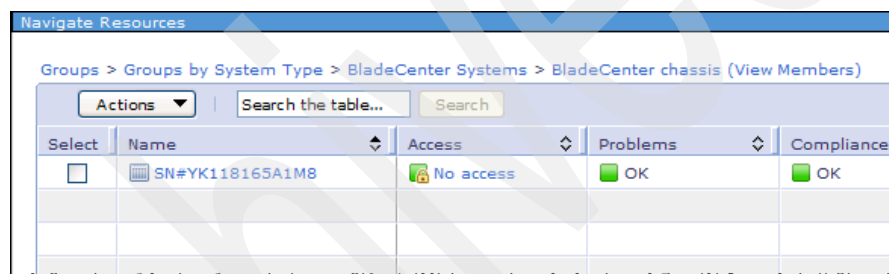

Figure 5-39 IBM Systems Director Navigate Resource page
1. Locate the discovered objects under their respective group in the Navigate Resources window as shown in Figure 5-39. This example shows a BladeCenter chassis as the discovered object.